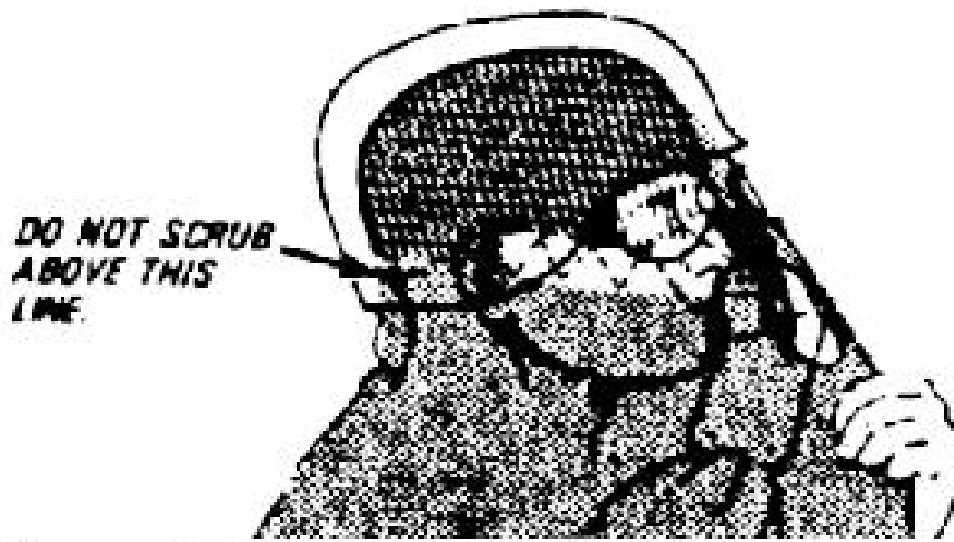

Figure E-79. Decontamination the face.
- (1) Hold your breath.
- (2) Close your eyes.
- (3) Lift the hood and mask from your chin.
- b. Wipe up and down from ear to ear (figure E-79).